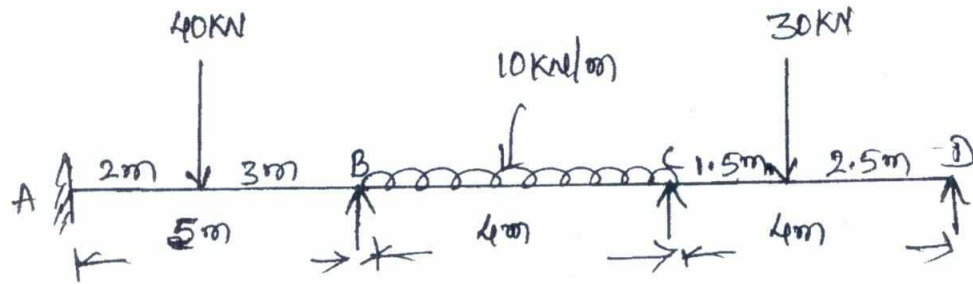

Fig. Q3
- 3 Analyse a continuous beam shown in Fig Q3. Using moment distribution method. Sketch SFD and BMD. (EI constant). (20 Marks)